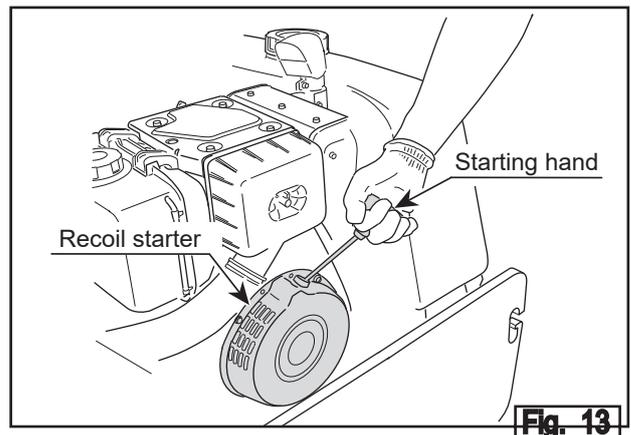

Fig. 13
- c. Grab the starting handle for the recoil starter and pull it slowly until you feel some resistance. (Fig.13)